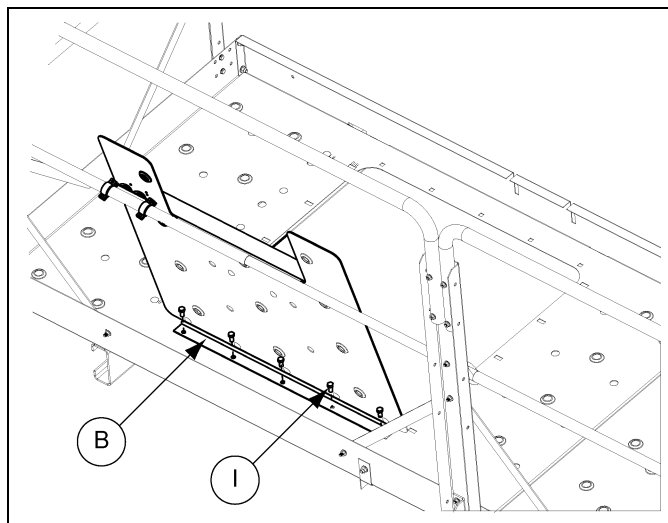

Figure 11D
6. Align holes on the hatch hinge (HP1624HH) (B) with holes along the deck opening closest to the kick plates. Install the hatch door to the decking using 3/8" x 3/4" bolts (S-7105) (I) and nuts. (See Figure 11D.)